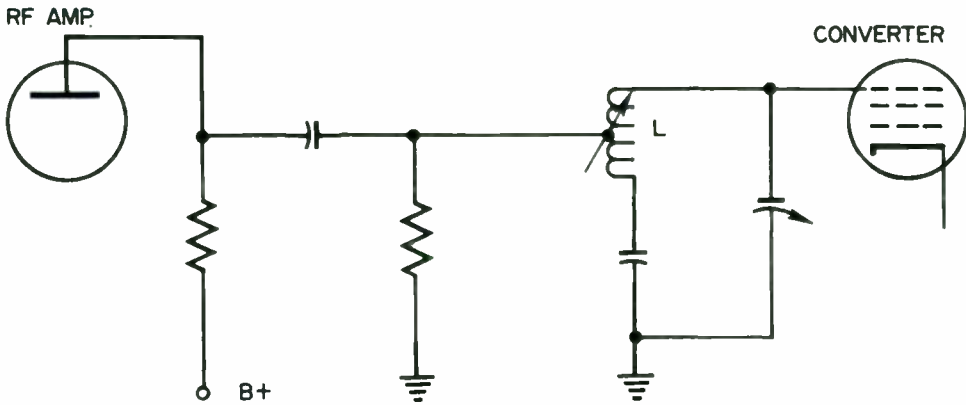

Figure 13 — Capacitive coupling into tuned mixer coil.
The circuit of Figure 13 uses a tuned inductor (L) to improve selectivity. RF signal voltage is connected to a tap on the inductor in the converter's grid circuit. This nullifies some of the effects of capacitances in the preceding stage . . . on the tuned circuit.